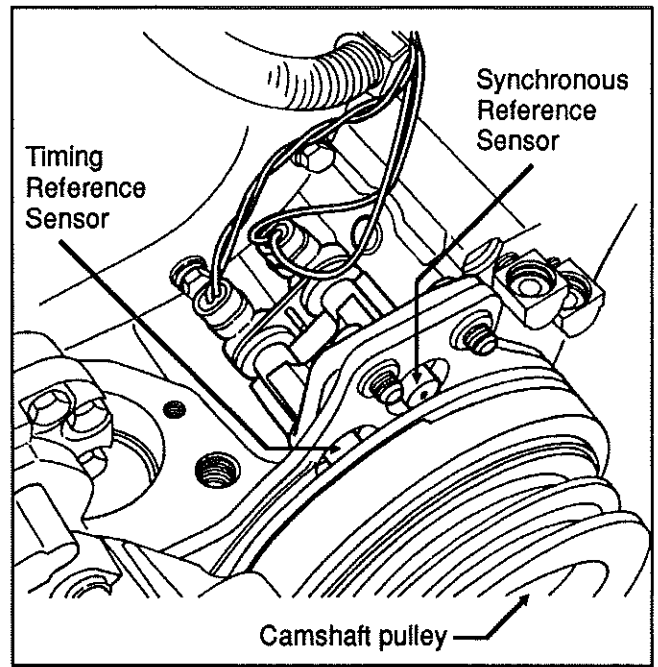

Fig. 3 - SRS/TRS Installation MA3E0103
The Synchronous Reference Sensor (SRS) and Timing Reference Sensor (TRS) are electronic components that send a signal to the ECM. The SRS references firing position for the number one (1) piston. The TRS sends a signal to indicate the firing position for each piston. The SRS/TRS assembly is mounted through the engine front end plate at the top left corner of the engine (see fig. 3 and 4).